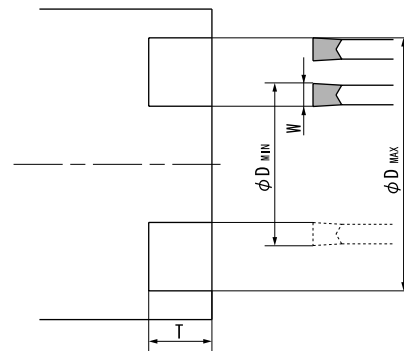

Fig. 1
- ① Pick up the available items from the groove width. Machining Dia. ϕD listed in the catalog means the dimension that the initial plunge of face grooving is available as shown in Fig. 1
- ② Confirm Grooving Depth (T dimension)